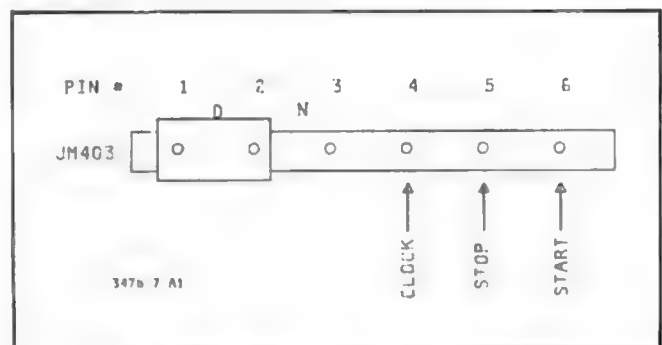

Figure 7-B-1. JM403 SA Connection
- b. Move jumpers JM502, JM503, and JM403 to the "D" position (JM403 pin 1 and 2), as shown in Figure 7-B-1.
- c. Obtain a Signature Analyzer. Set and connect as follows (shown in Figure 7-B-1):